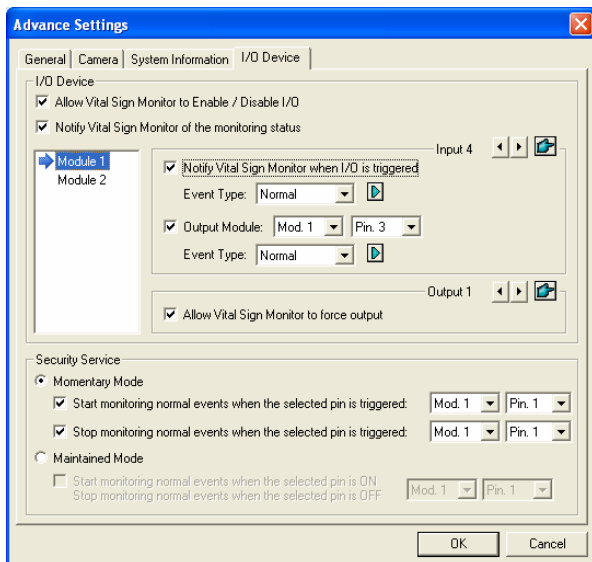

Figure 3-8
- **Force Output:** To enable this tab, highlight one output from the tree list, and click this tab to force the output at the subscriber site. For this, the subscriber must grant the privilege first. See the **Allow Vital Sign Monitor to Force Output** option in Figure 3-8.
- **Enable/Disable I/O:** Allows the VSM to arm or disarm any I/O devices at the subscriber site without interrupting the monitoring. For this, the subscriber must grant the privilege first. See the **Allow Vital Sign Monitor to Enable / Disable I/O** option in Figure 3-8.